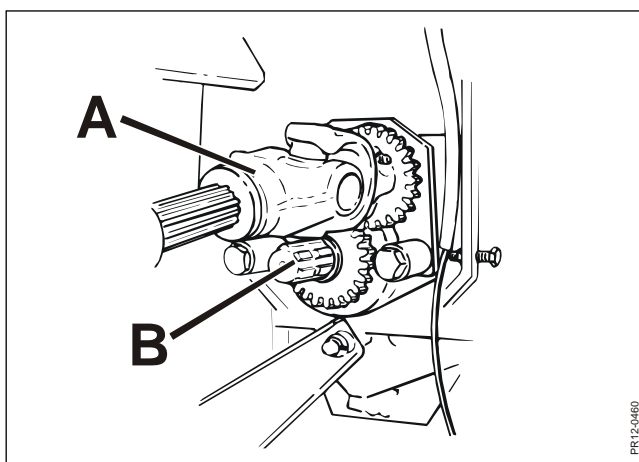

Fig. 6-7
- Fig. 6-7** 2) Move the PTO shaft **A** for the rotor to the alternative pin in **position 1** where the gear wheels are not meshed. This means that there is no power to the rotor.
- Fig. 6-7** 4) After reversing, disconnect the power take-off again, and when the rotor has come to a complete standstill, move the PTO shaft **A** for the rotor back to the pin **B** for driving the rotor.